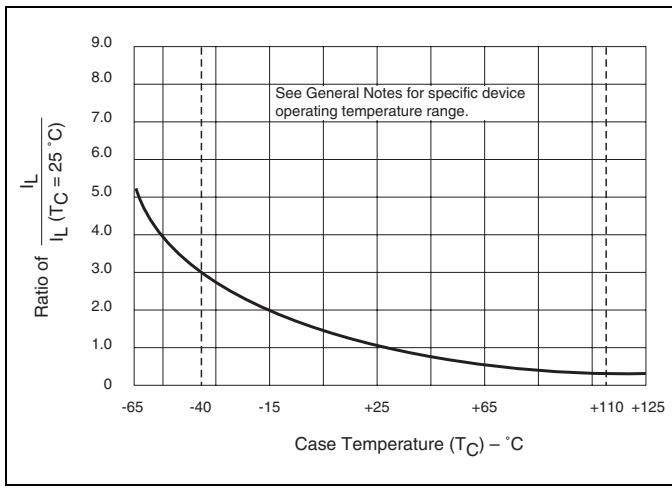

Figure E5.18 Normalized DC Latching Current versus Case Temperature
- (14) I_{GT} = 500 μA maximum at T_C = -40 °C for T106 devices
- (15) I_H = 10 mA maximum at T_C = -65 °C for 2N5064 Series and 2N6565 Series devices
- (16) I_H = 6 mA maximum at T_C = -40 °C for T106 devices
- (17) Pulse Width ≤ 10 μs
- (18) I_{GT} = 350 μA maximum at T_C = -65 °C for 2N5064 Series and 2N6565 Series devices
- (19) Latching current can be higher than 20 mA for higher I_{GT} types. Also, latching current can be much higher at -40 °C. See Figure E5.18.
- (20) T_C or T_L = T_J for test conditions in off state
- (21) I_{DRM} and I_{RRM} = 50 μA for 2N5064 and 100 μA for 2N6565 at 125 °C
- (22) TO-92 devices specified at -65 °C instead of -40 °C
- (23) T_C = 110 °C